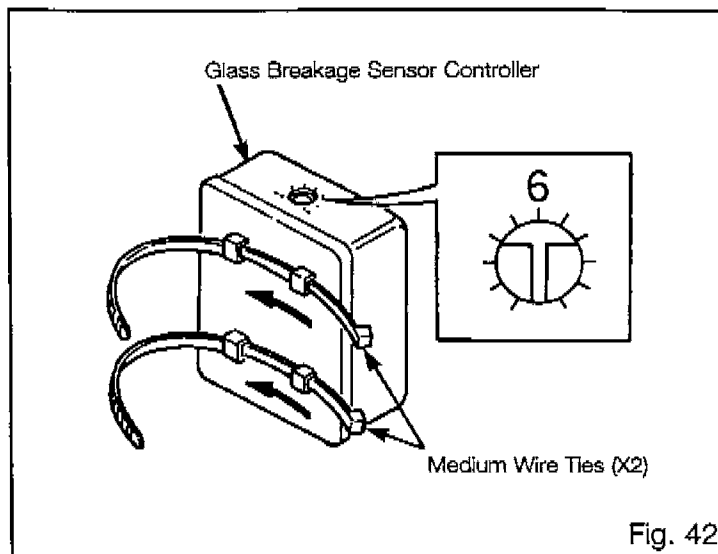

Fig. 42
- (1) A) Insert two medium wire ties through the openings on the back cover of the Glass Breakage Sensor Controller. Fig 42
- B) Using a small, flat blade screwdriver, turn the adjustment screw to the "6" position. Fig 42